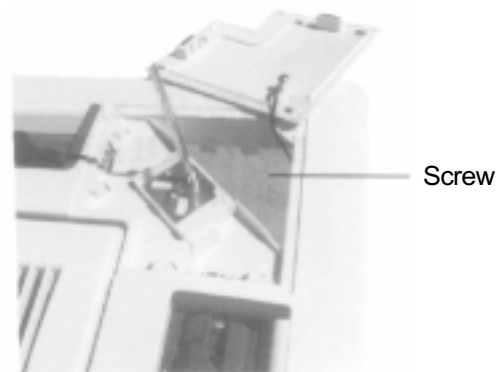

Figure 7
- Unscrew the four screws (as shown in figure 7), and rotate the panel counter-clockwise. Lift it and remove the control box.